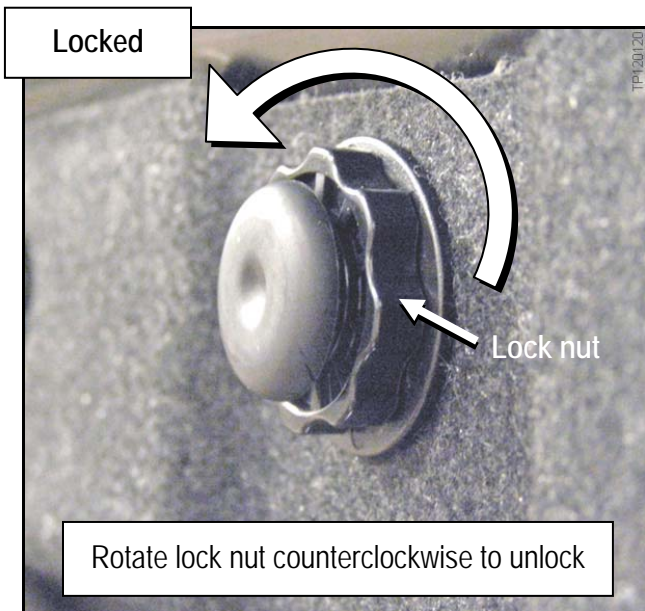

Figure 5
a. Unlock the stopper by rotating the lock nut counterclockwise until fully loose. See Figures 5 and 6.